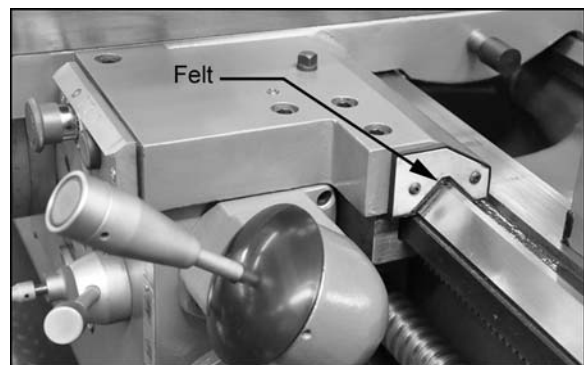

Figure 13 – Anti-dust felt
10. **Saddle** – The anti-dust felt on both ends of the v-guide ways (Figure 13) should be cleaned weekly with kerosene. If the felt becomes damaged, replace it.